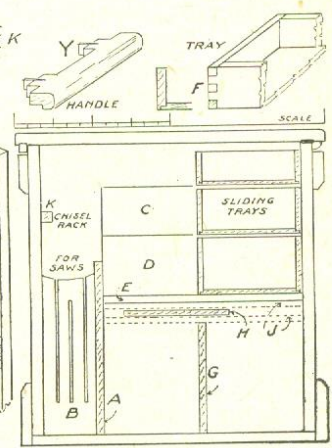

FIG. 6. SECTION OF FITTINGS
Handles.—A strong iron or brass handle may be fitted to the chest at each end. Alternatively, wood handles could be used (see Y, Fig. 6).
the ledge (E) below bottom tray ; but here many chests are fitted with lids (H, Fig. 6) which slide between fillets (J). The chief advantage of this lid is that it provides an extra shelf for temporary storage purposes. If introduced, clamp the lid with hardwood ends.